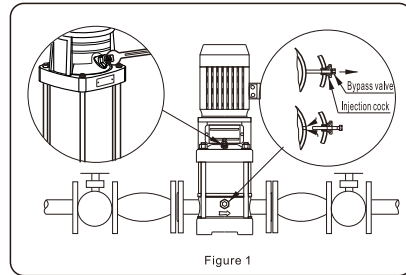

Figure 1
9.2 The air is discharged, tighten the bleeder screw using special tool. (Figure 1)